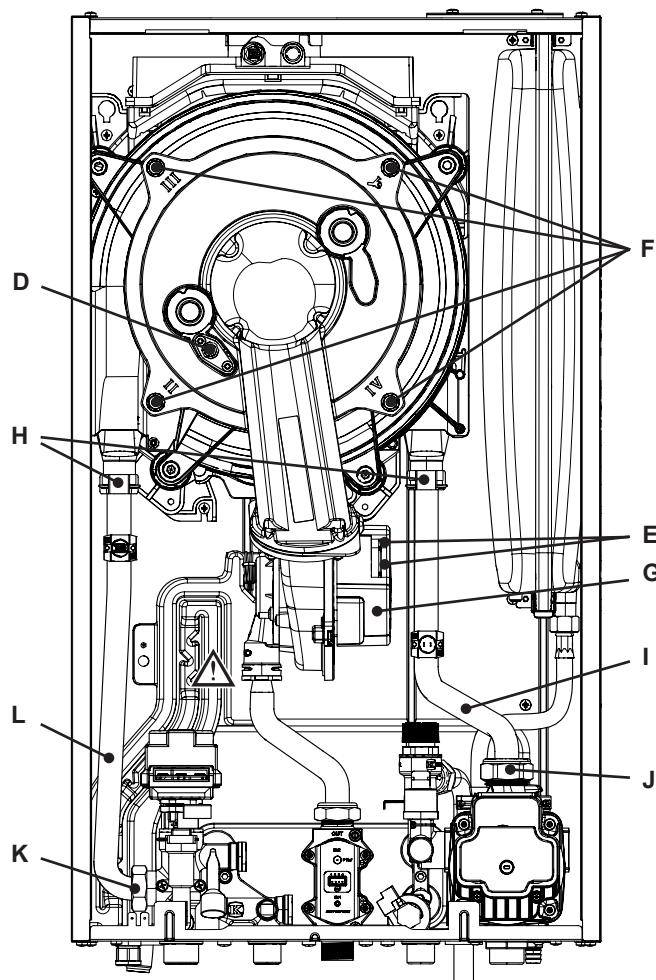

Figure 5.2
- 4 Disconnect the fan connector "E" by pressing the plastic hook placed on the side of the connector (Figure 5.2).
- 5 Unscrew the nuts "F" (Figure 5.2).
- 8 Remove the clips "H" (Figure 5.2).
- 9 Loosen the connection "J" and slightly move the pipe "I" upwards, turn it towards left (Figure 5.2) and then move the pipe downwards freeing it from the Condensing heat exchanger.
- 10 Loosen the connection "K" and slightly move the pipe "L" upwards, turn it towards left (Figure 5.2) and then move the pipe downwards freeing it from the Condensing heat exchanger.
**Ensure to tighten the nuts "F" - Figure 5.2 firmly.**